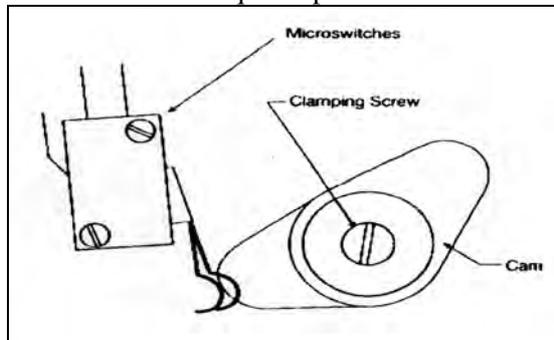

Figure 5: Limit Switches
7. The limit switches may now be adjusted (Figure 5). Each unit has its own pair of cams, one to set the open position and one to set the closed position. Loosen the screw holding the cams. Operate the operator with the transmitter and note which cam controls the opening/closing motion (the cam lobe activates a limit switch to turn off the motor). Reposition each cam and operate the operator again. Repeat until the gates open and close to the required positions.